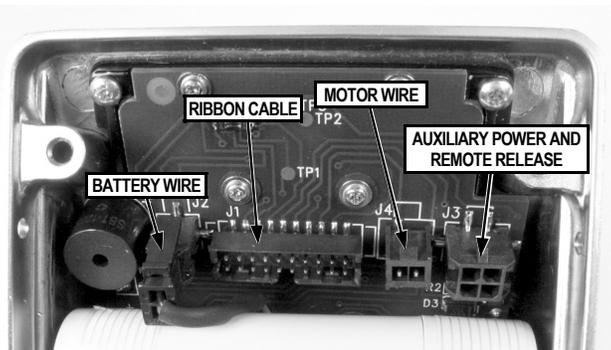

FIG. 15: RECEPTACLES LOCATED IN SECONDARY SIDE
4. Plug the battery connector into the secondary side receptacle. See Fig. 15.
5. Connect the motor wire plug (see Fig. 15 for location of the motor wire receptacle), then connect the ribbon cable. **Note:** These plugs and sockets fit only one way--do not force them. Seal the connectors with dielectric grease (included). Upon connection of the ribbon cable, you will hear three beeps.